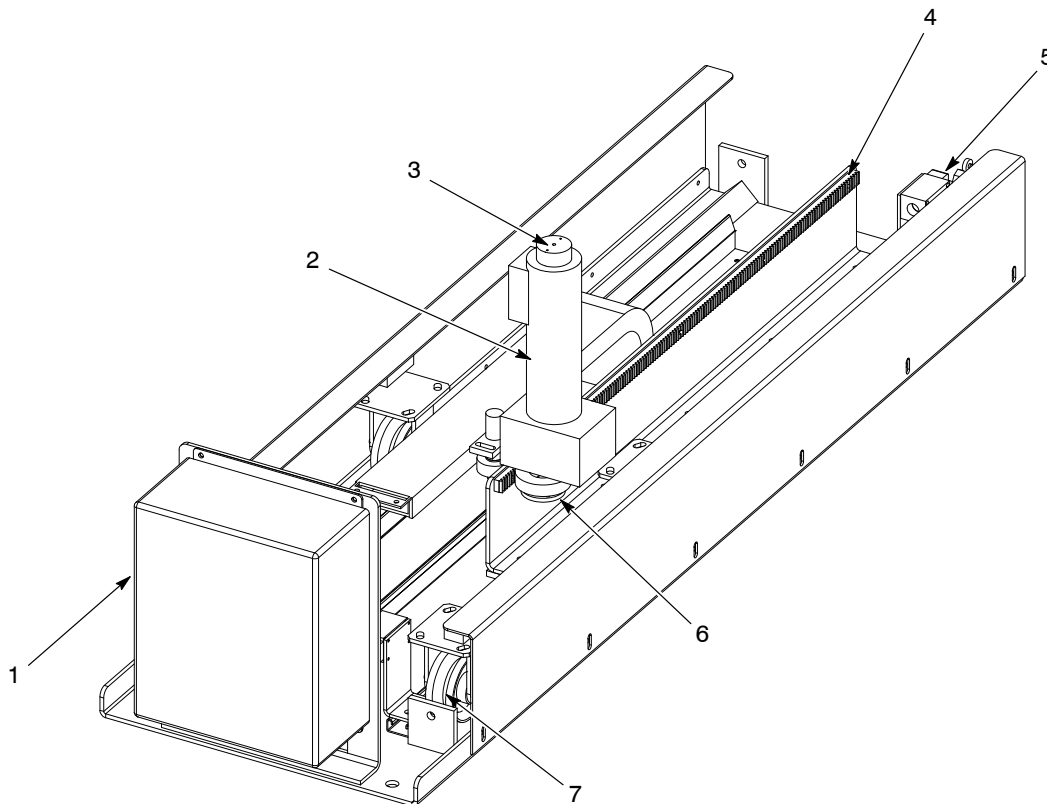

Figure 1 VO618N Rack and Pinion Horizontal In/Out Positioner
See Figure 1. The VO618N rack and pinion horizontal in/out positioner moves powder spray guns in and out of a powder coating booth. The spray guns typically are mounted on either a VO618N vertical oscillator or fixed gun stand, which is bolted to the positioner.
See Figure 1. A vertical oscillator or fixed gun stand is bolted directly to the casters (7). The gear motor (2) drives the gear (6) along the gear rack (4), moving the spray guns into or out of the booth. The PLC (which is mounted in the booth control panel and/or the positioner junction box (1)) and encoder (3) control the speed of the positioner and the position in which it stops. A limit switch (5) stops the positioner when it reaches the maximum travel distance.